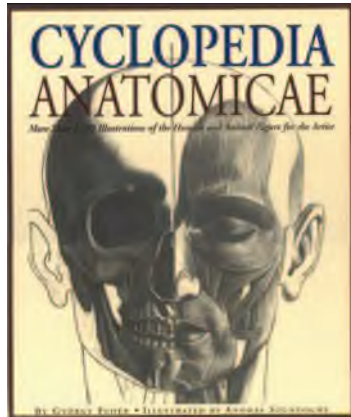

FIG. 6-2 *Cyclopedia Anatomicae*.
- *Cyclopedia Anatomicae*, by Gyorgy Feher, Black Dog & Leventhal Publishers, Inc. (Figure 6-2)